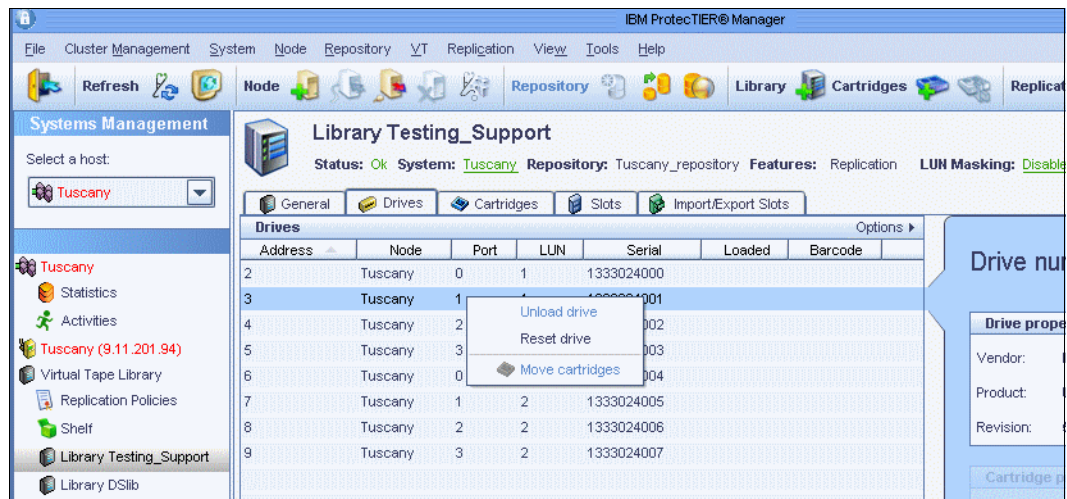

Figure 10-108 Reset drive: Select drive
3. Select a drive (Figure 10-108).